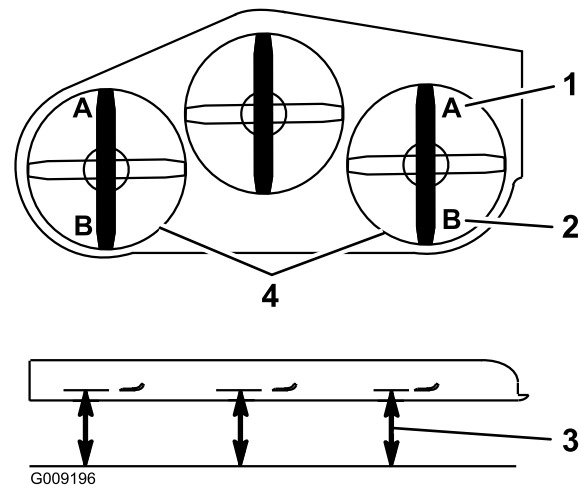

**Figure 95**
5. Push the deck lift pedal all the way forward and the deck will latch at the 14 cm (5-1/2 inch) transport position (Figure 95).